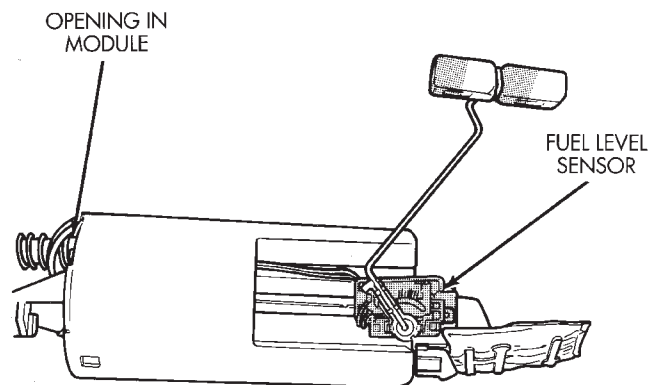

Fig. 23 Level Sensor Removal/Installation
(4) Slide level sensor wires through opening fuel pump module (Fig. 23).
(5) Slide level sensor out of channel in module.